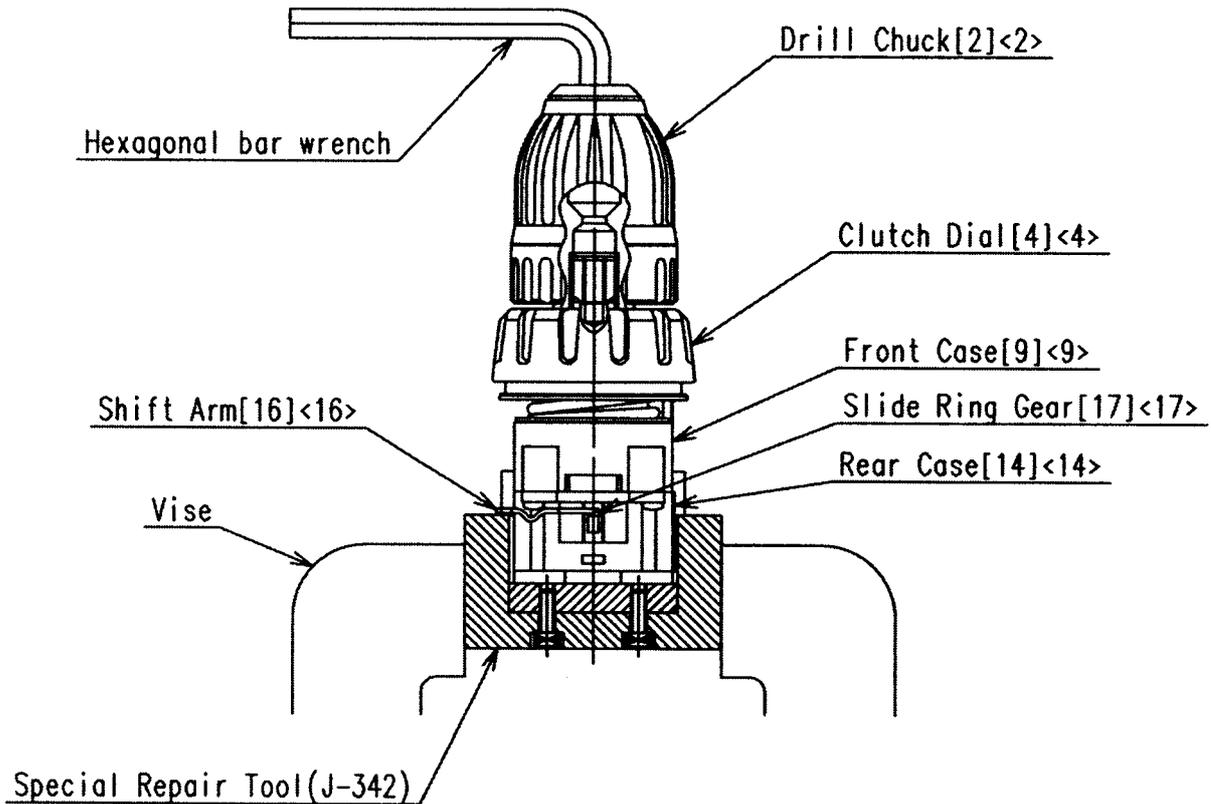

Fig. 2
(3) After housing (B) has been removed, all the internal parts, assembled or separate, can be taken out as they are. Lift the entire contents from housing (A) while holding the Motor **[25]** **<25>** and the Clutch Dial **[4]** **<4>**.
(4) Removal of the Drill Chuck **[2]** **<2>** (See Fig. 2.)
(b) Attach the motor spacer (an accessory of the special repair tool J-342, Code No. 324-582) to the assembly of the Drill Chuck **[2]** **<2>**, Clutch Dial **[4]** **<4>**, Front Case **[9]** **<9>** and Rear Case **[14]** **<14>** then mount it in special repair tool J-342 clamped in the vise as illustrated in Fig. 2. In this operation, check that the pinion press-fitted in the special repair tool J-342 and Planet Gear (A) Set **[21]** **<21>** are engaged properly.
(e) Fit the hexagonal bar wrench M10 into the Drill Chuck **[2]** **<2>** as illustrated in Fig. 2 and remove the Drill Chuck **[2]** **<2>** by turning the hexagonal bar wrench counterclockwise.